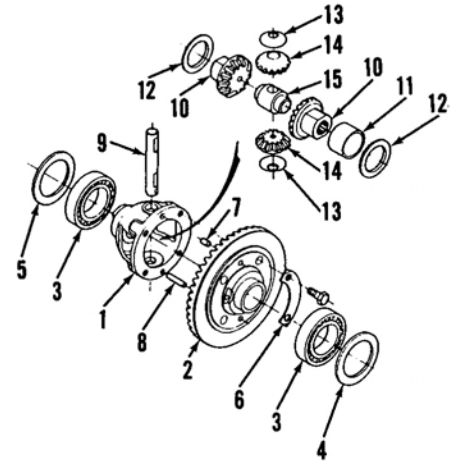

Fig. 80—Exploded view of rear axle differential and bevel ring gear typical of all models.
lift cover. Disconnect and remove differential lock and brake rods. Remove control rod from control valve actuating lever. Remove three cap screws retaining control valve to lift cover, then separate components being careful not to drop the two "O" rings. Remove bracket mounted to lift cover cylinder head. Remove top link bracket at rear of lift cover. Remove the nine cap screws securing lift cover to center housing, then tap lift cover upwards using a suitable mallet. Note that lift cover must be lifted upward because of dowel pins located in center housing. Remove the ten cap screws retaining left and right axle case assemblies to center housing. Tap axle shaft with a suitable mallet to break components apart, then carefully extract assemblies. Remove left (18—Fig. 81) and right (17) differential bearing holders and withdraw shims (4 and 5—Fig. 80). Lift out differential and bevel ring gear assembly from center housing.
Installation is reverse order of removal. Renew all gaskets and "O" rings. Backlash between bevel ring gear and bevel pinion should be 0.1-0.2 mm (0.004-0.008 inch) with an allowable limit of 0.4 mm (0.016 inch). Adjust by varying thickness of shim (4 or 5—Fig. 80) until recommended backlash is attained. Tighten cap screws securing left and right axle case to center housing to 48-56 N·m (35-41 ft.-lbs.) torque for M10 cap screws and 77-90 N·m (57-67 ft.-lbs.) torque for M12 cap screws. Tighten cap screws securing lift cover to center housing to 25-29 N·m (19-22 ft.-lbs.) torque. Tighten cap screws mounting top link bracket to lift cover to 41-47 N·m (30-35 ft.-lbs.) torque.
76. OVERHAUL. Use a suitable bearing puller and push plate to withdraw left and right case bearings (3—Fig. 80). Bend ears of lock plate (6), then remove the four cap screws securing bevel ring gear (2) to differential case (1). Tap components with a suitable mallet to break apart, then complete separation. Extract retaining pin (8), then slide cross-shaft (9) from differential case. Complete disassembly with reference to Fig. 80.
beyond limits adjust by varying thickness of thrust washer (12—Fig. 80). Thrust washer (12) is available in thicknesses of 0.7-0.8 mm (0.0276-0.0315 inch), 0.9-1.0 mm (0.0367-0.0394 inch) and 1.1-1.2 mm (0.0433-0.0472 inch). Correct thickness of thrust washer (13) is 0.9-1.0 mm (0.0367-0.0394 inch).